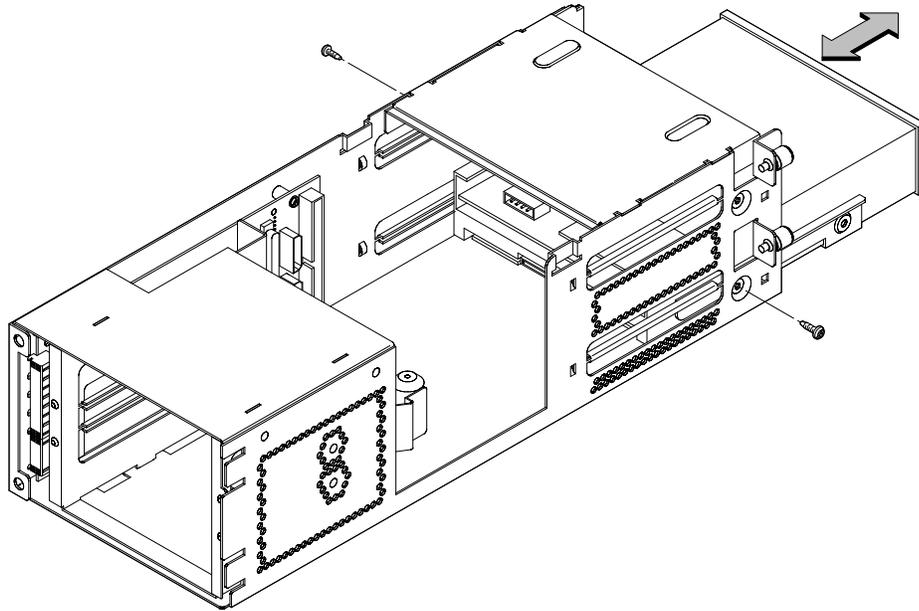

Figure B-6. Removing Drive Screws
10. Unscrew the two screws holding the drive in the storage drawer, and slide the drive out of the drawer. See Figure B-6.